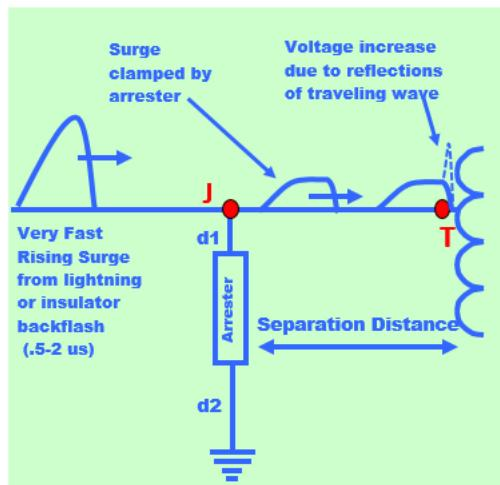

Figure 2 Separation Distance Calculator Circuit
- L* =  $d_1 + d_2 \times .4\mu\text{H}/\text{ft}$  ( $d_1$  and  $d_2$  in feet) (see Figure 2)
An interactive Excel based calculator based on the above equation is available. Figure 2 shows the basic circuit and Figure 3 shows the inputs and outputs of the calculator. The inputs are in Green boxes and the output is at the bottom showing the maximum separation distance in feet or meters.